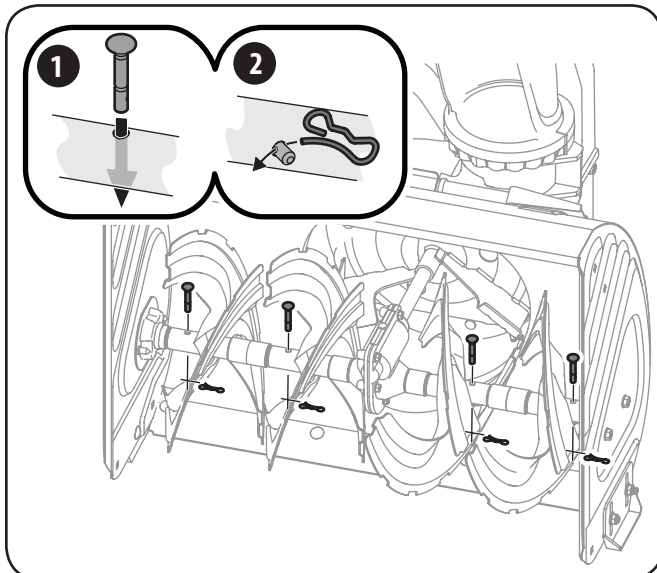

Figure 7-1
1. Replace the shear pins as shown in Figure 7-1.